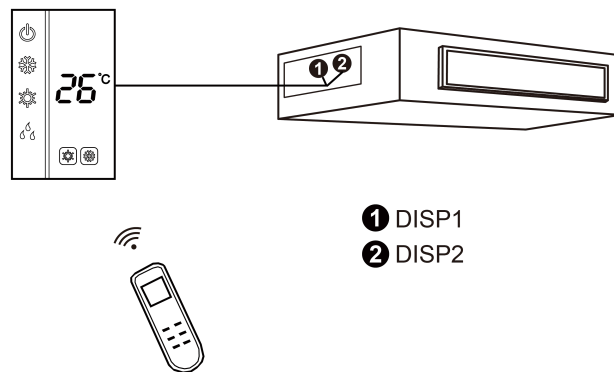

Fig.5.4.2
- 2) Fig.5.4.2 shows the installation of remote controller.